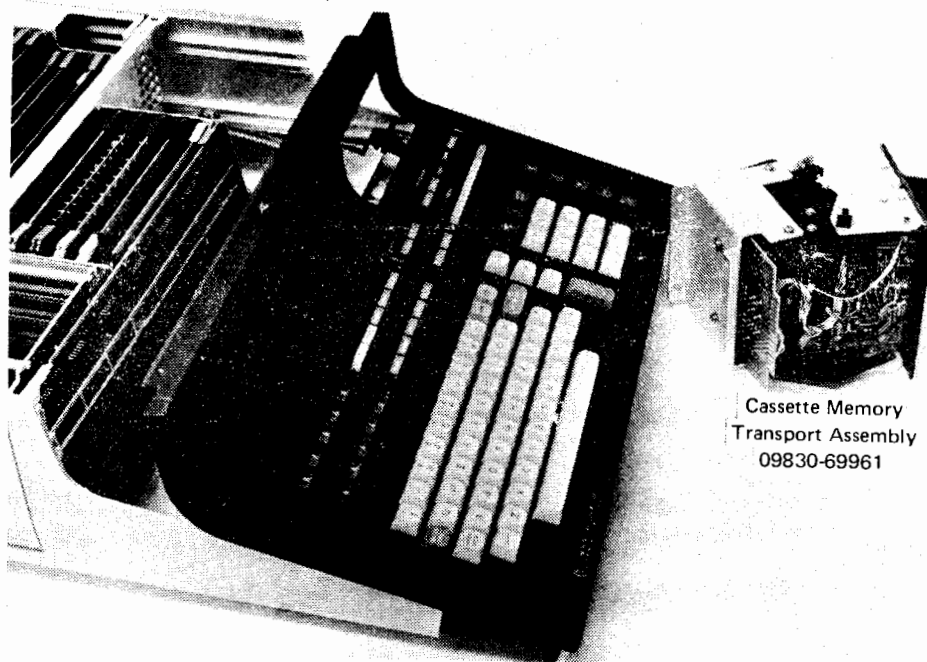

Figure 6-7. The Cassette Memory Transport Assembly.
5. To remove the cassette transport, remove the two screws which hold the transport in place. Then, lift the transport out of the calculator. (See Figure 6-7.)